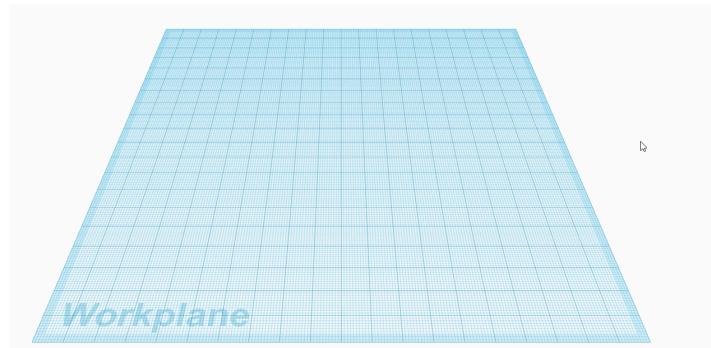

Figure 15.2: Tinkercad Workplane
7. Now you should see a 2D workplace as in Figure 15.2.